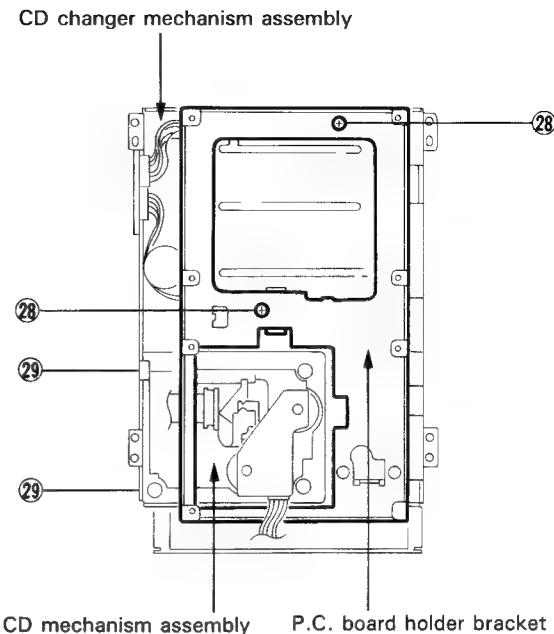

Fig. 7-26
(Refer to Fig. 7-26)
7. From the CD changer mechanism assembly, remove the two screws ②8 retaining the P.C. board holder bracket (Refer to Fig. 7-26).
8. From the CD changer mechanism assembly, remove the two screws ②9 retaining the CD mechanism (Refer to Fig. 7-26 and 7-27).